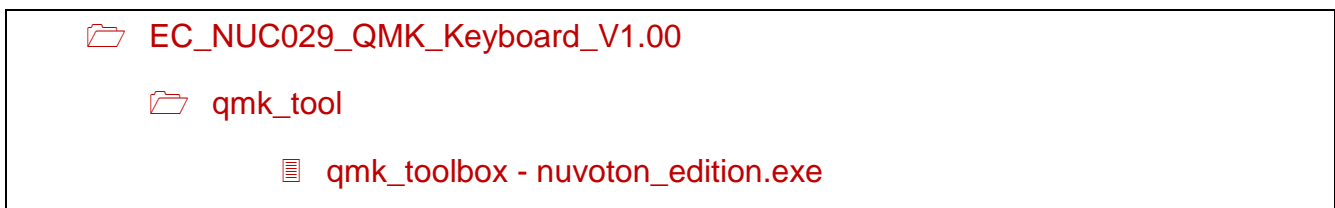
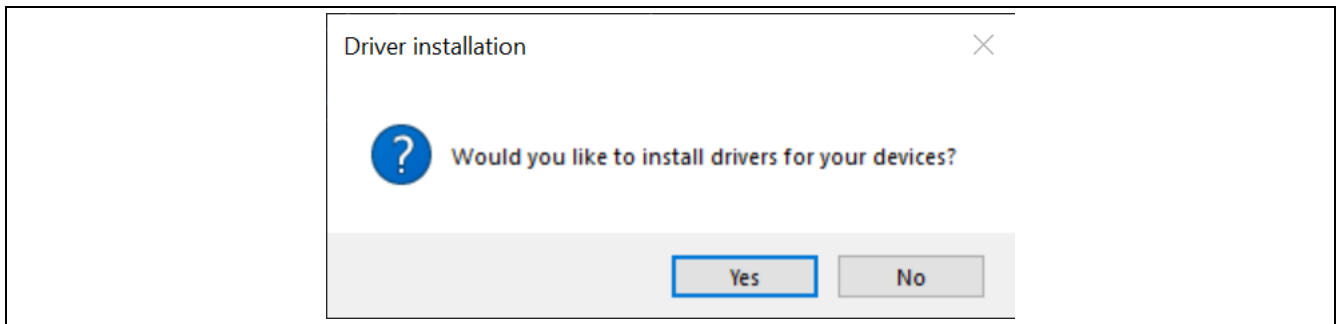

Figure 5-30 QMK Toolbox (Nuvoton Edition) File Path
Figure 5-31 Ask to Install Drivers for Devices (But Not for Nu_DFU Device)
4. Open QMK Toolbox (Nuvoton Edition) in this example code. The file path is shown in Figure 5-30. If a message about asking to install drivers for devices is shown after opening QMK Toolbox (Nuvoton Edition), as shown in Figure 5-31, note that the driver that is asked to be installed at this time is applicable to other QMK supported devices, but not for the Nu_DFU device. The driver of Nu_DFU device needs to be installed manually, but user can decide whether to install other device drivers here.